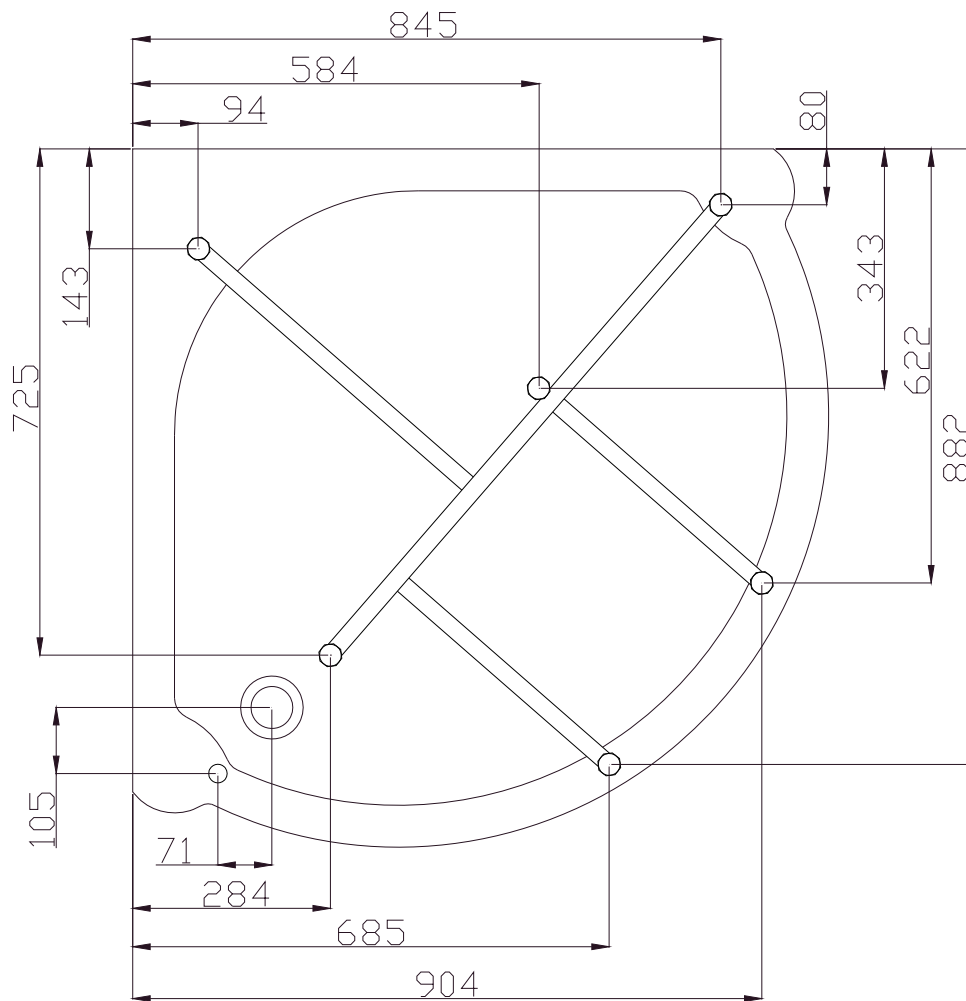

Fig 1 Legs and frame position (top view)
3. For installation of the drain in the floor please refer to the **Legs and frame position (top view)** diagram and fig 1 (actual position of the drain and frame on the tray).